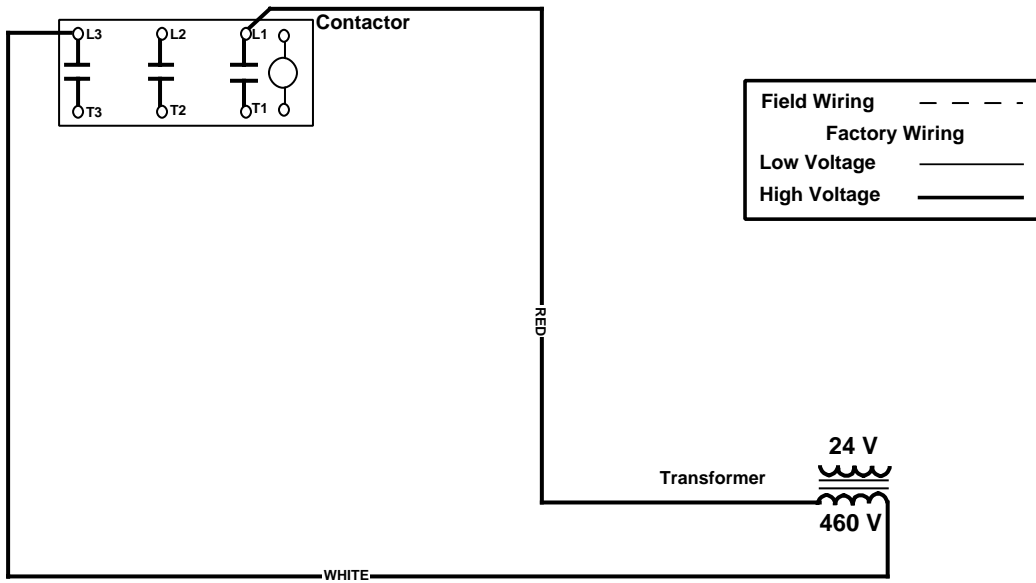

Figure 1. Convertible Packaged AC/HP: Heater Kit Retrofit (Wires to Remove)
3. Remove the RED wire that runs between the L1 terminal on the Contactor and the 460V side of the Transformer. Next remove the WHITE wire that runs between the L3 terminal on the Contactor and the 460V side of the Transformer. (See Figure 1.)